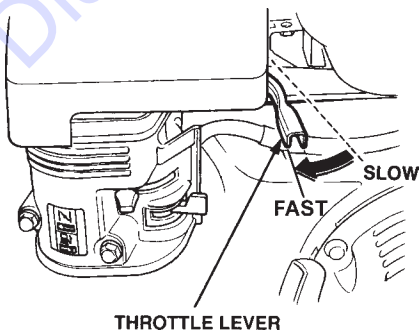

Figure 16. Throttle lever Lever
3. Move the throttle lever (Figure 16) away from the slow position, about 1/3 of the way toward the fast position.